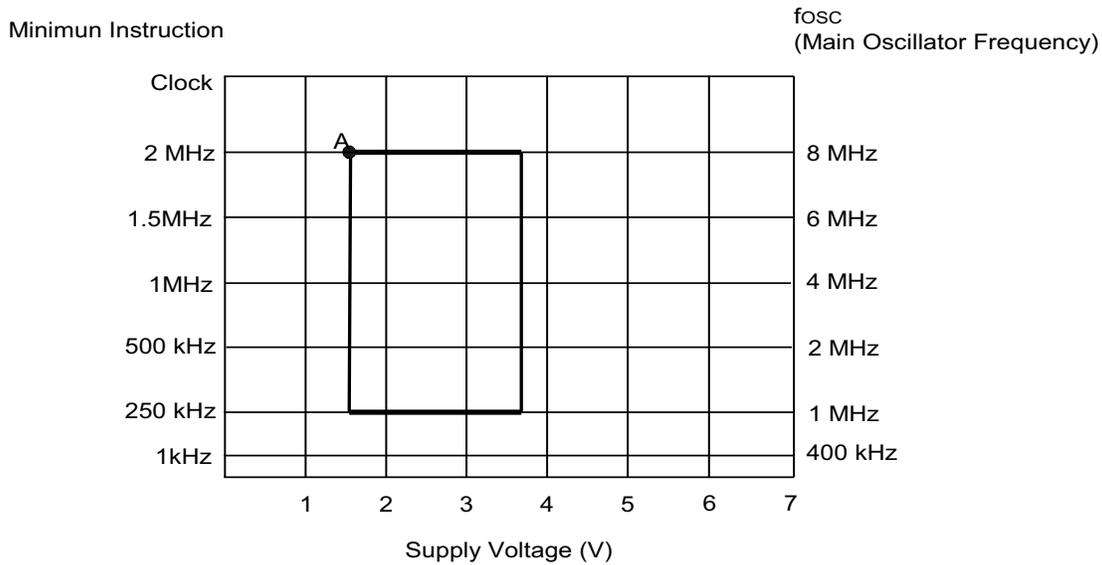

Figure 97. Operating Voltage Range
► **Note:** In Figure 97, the minimum instruction clock = $1/4n \times$ oscillator frequency, in which $n = 1, 2, 8, \text{ or } 16$; $A = 1.60\text{V}$ at 8MHz.